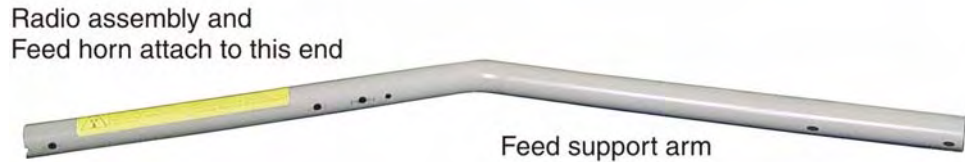

Figure 6: Feed support arm
**Feed support arm** Figure 6 shows the *feed support arm*. The feed support arm supports the radio assembly and feed horn. It attaches to the reflector bracket.